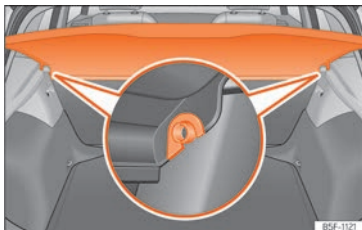

Fig. 172 In the boot: removing and installing the shelf.
- Remove the rear shelf from the side supports »» **Fig. 172** by pulling it upwards and then take it out.
- Insert the cover horizontally so that the “recess” fits onto the axis of the supports »» **Fig. 172** and press down until it engages.